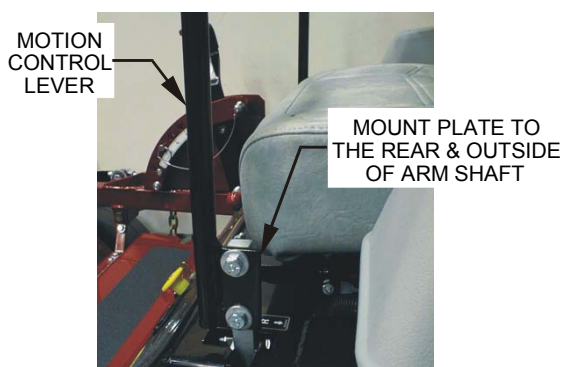

FIGURE 2
- 3.6.1 Loosen and remove the two (2) 3/8" x 1" bolts and spring disc washers which attach the motion control levers to the control arm shafts for shipping and the two (2) 3/8" x 1" bolts and spring disc washers which are screwed into the control arm shafts.
- a) Install the left motion control lever onto the control arm shaft (See Figure 2) on the left side of the console. Place the lever (with the mounting plate towards the rear) on the **outside** of the control arm shaft and secure with the bolts and washers. Position the lever so the bolts are in the center of the slots on the lever mounting plate and tighten until snug. Repeat on opposite side of unit.